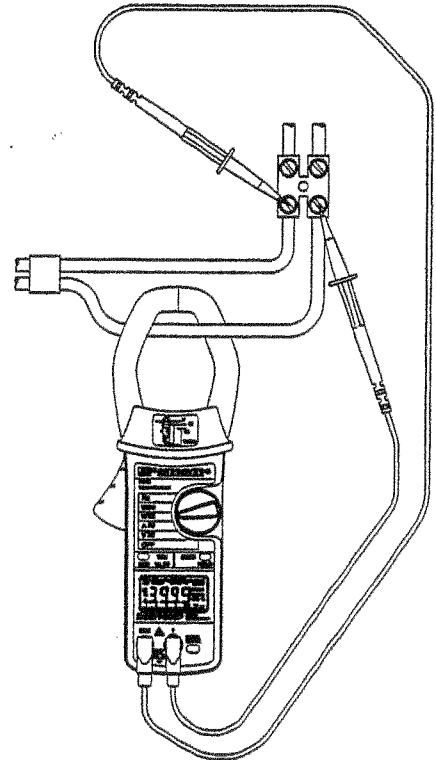

Fig. 4
- Press the trigger to open the jaws, and clamp them on the current carrying conductor, as shown in Fig. 4
- When configured to measure power (Fig. 4) with the test leads connected and the jaws clamped around a current carrying conductor, the instrument displays the frequency of the current source (providing ARMS > 10A). If ARMS < 10.0A, a volts frequency measurement will be made (providing VRMS > 10V), otherwise ---.- will be displayed